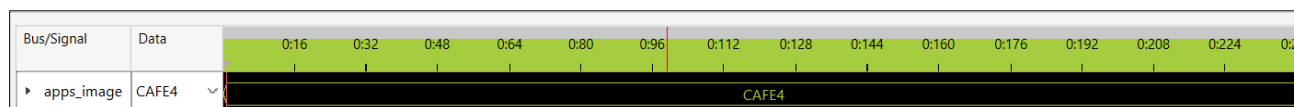

Figure 7.12. apps_image Showing CAFE4
- c. Run Reveal Analyzer and now the apps_image displays CAFE4 (Figure 7.12). LED D3, D4, D5, and D6 are blinking, indicating that the device fails to boot from the corrupted Alternate Pattern 3 and falls back to the golden pattern.